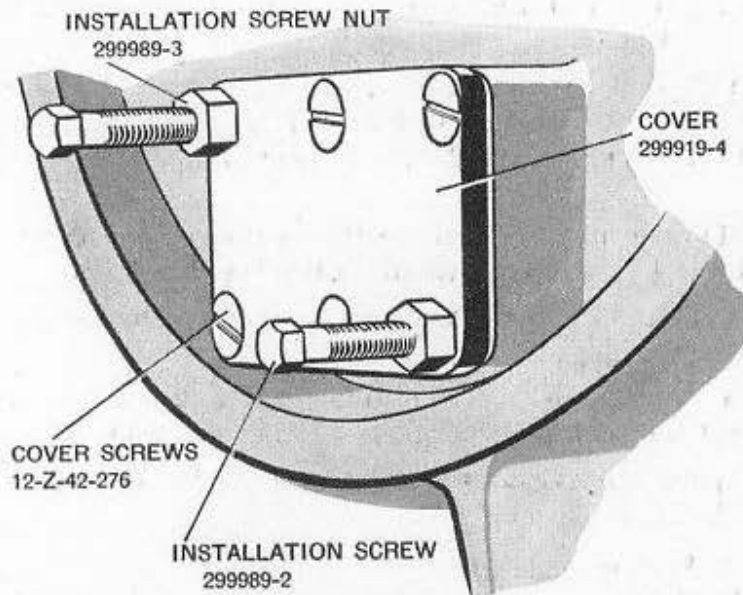

Figure 37—Installation screws and nuts in place
27. BASE ASSEMBLY (299912) STRIPPING—The base has now been stripped of all parts except the valves. If necessary to remove them, proceed as follows: Turn the base upside down and remove two valve chamber cover screws (12-Z-42-276) from opposite corners of the cover. See Figure 37.